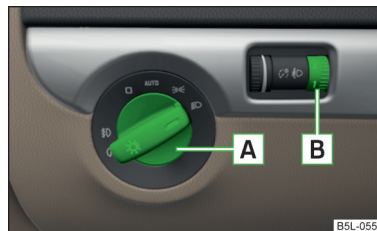

Fig. 25
On models fitted with **right-hand steering**, the position of some of the controls differs from that shown in » Fig. 25 on page 47. The symbols which mark the positions of the controls are identical.
Light switch positions **A** » Fig. 25.
Turning the rotary switch **B** » Fig. 25 from position -- to 3 gradually activates the headlight beam control, thereby shortening the beam of light.
- ✓ The light switch **A** is in position 0 or **AUTO** » Fig. 25 on page 47.